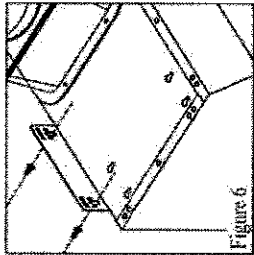

Figure 6
- B-4. Align hood-mounting bracket to the screws on the wall and hook hood into place as shown in Figure 6. Tighten screws to screws to secure hood to the wall.